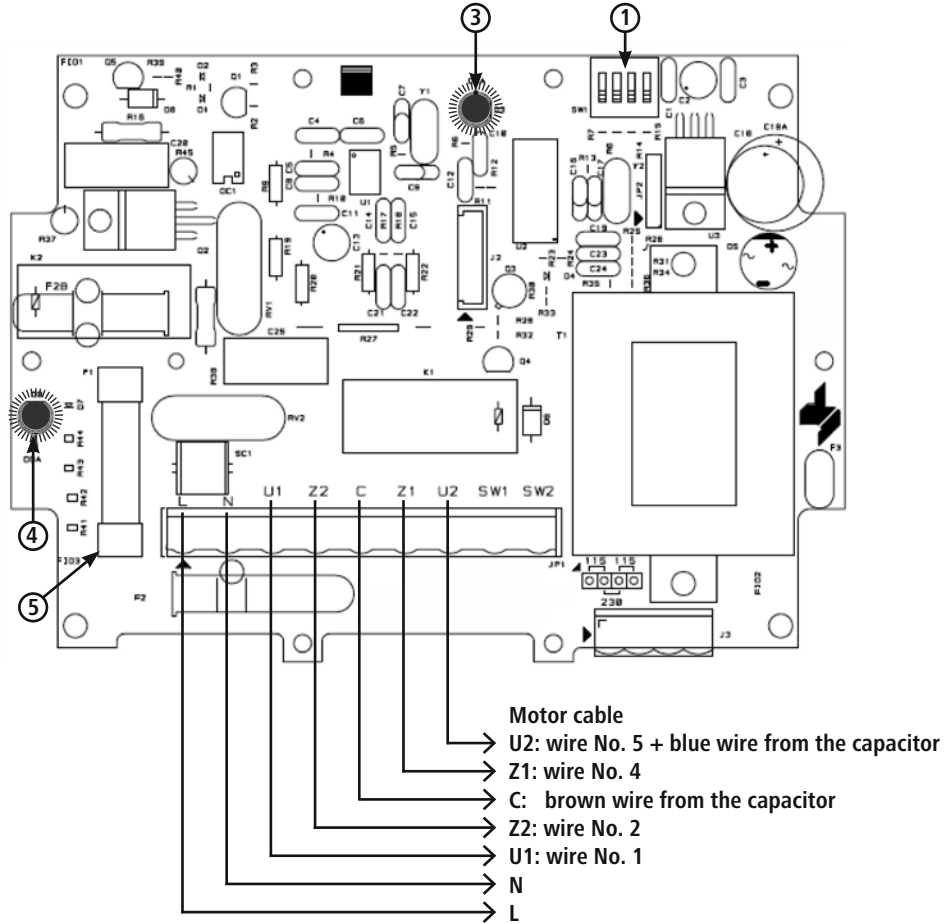

Figure 7: main control card diagram
The resistance threshold (= switch-off resistance) can be adjusted using the black dip switch element (item 1, Fig. 7) on the control card. When carrying out this change, a qualified electrician should always be consulted who can ensure the safe opening of the control box.